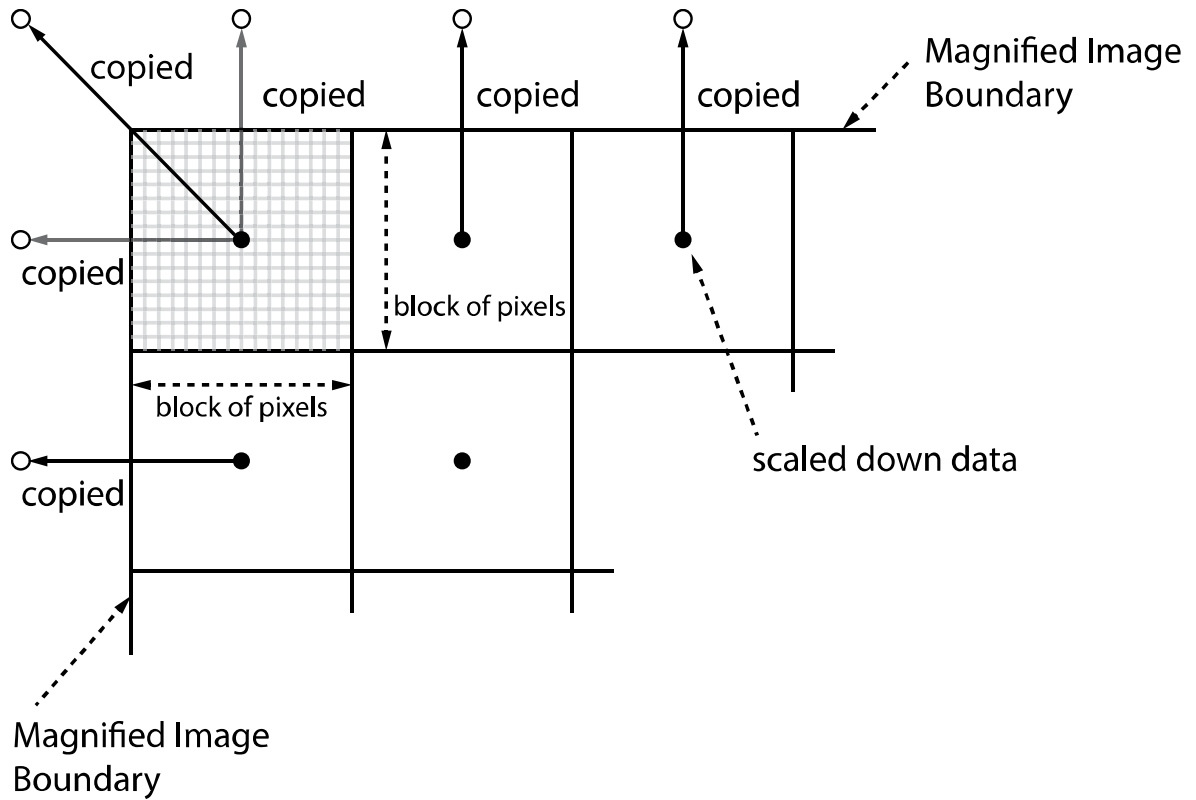

Figure 9-7 Bilinear Interpolated Magnification
3. Execute the Flat Field Data Save parameter to save the generated Flat Field data into the non-volatile memory. When the scaled down Flat Field data are used for correction, they are expanded and applied with a Bilinear Interpolation as shown in the Figure 9-7.